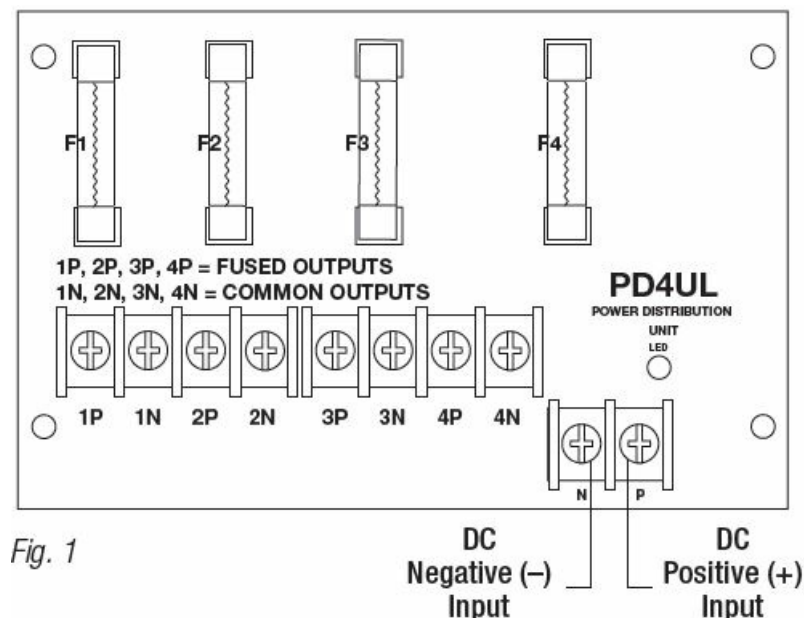

Fig. 1
3. Connect the desired power supply output to the terminals marked [INPUT] (Fig. 1).
Note: Left terminal is NEG. (–) and the right terminal is POS. (+) (Fig. 1).